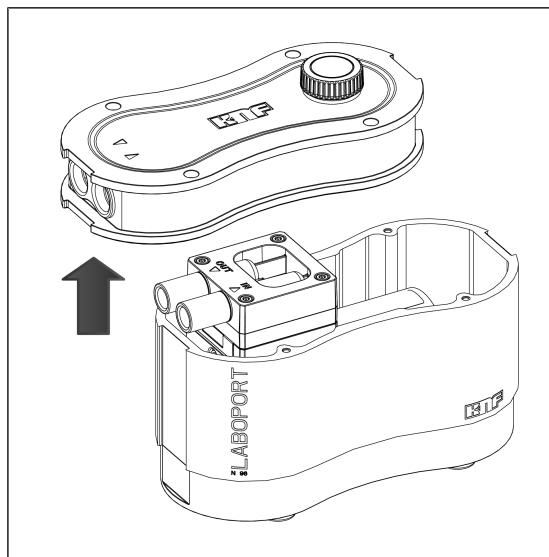

Fig. 10: Removing the housing cover
3. Carefully remove the housing cover (2) and place it next to the pump housing (3) (see Fig. 10).